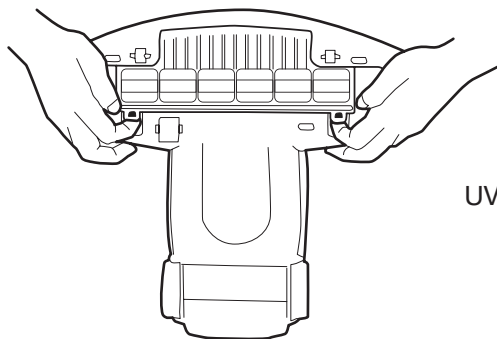

Figure 6
1. Vacuum should be turned off prior to cleaning the bulb. Detach the protective grill on the bottom of the base unit by gently pulling up on the two tabs at the back of the covering (see Figure 6). Set the cover aside and wait for bulb to cool.